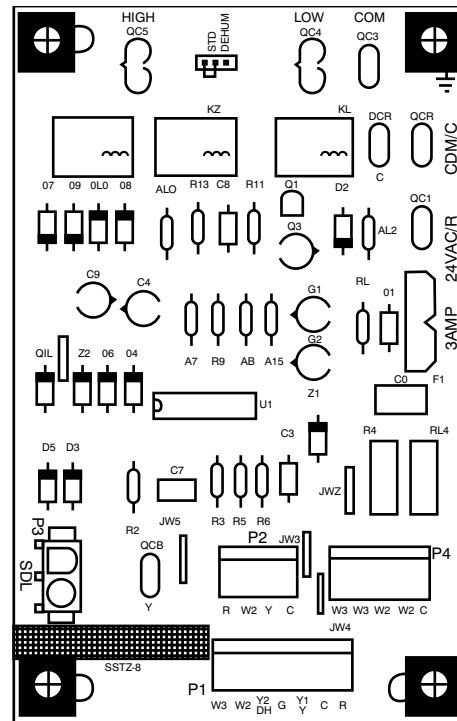

Fig. 14 – Interface Fan Board (IFB)
The cooling speed is marked “LOW” on the interface fan board (IFB) (See Fig. 14). The factory-shipped settings are noted in Table 6. There are 4 additional speed tap wires available for use in either electric heating or cooling (For color coding on the indoor fan motor leads, see Table 5). The additional 4 speed tap wires are shipped loose with vinyl caps and are located in the control box, near the interface fan board (IFB) (See Fig. 14).
2. Remove the current speed tap wire from the “LOW” terminal on the interface fan board (IFB) (See Fig. 14) and place vinyl cap over the connector on the wire.
1. Using Fig. 14, move the two pin DEHUM jumper from the “STD” position to the “DEHUM” position.
2. Remove fan speed tap wire from the “LOW” terminal on the interface fan board (IFB) (See Fig. 14).
When the DEHUM feature is not used, the continuous fan speed will be the same as cooling fan speed. When the DEHUM feature is used, the continuous fan will operate on IFB “LOW” speed when the DH control lead is not energized, or IFB “HIGH” speed when the DH lead is energized (see Fig. 14).